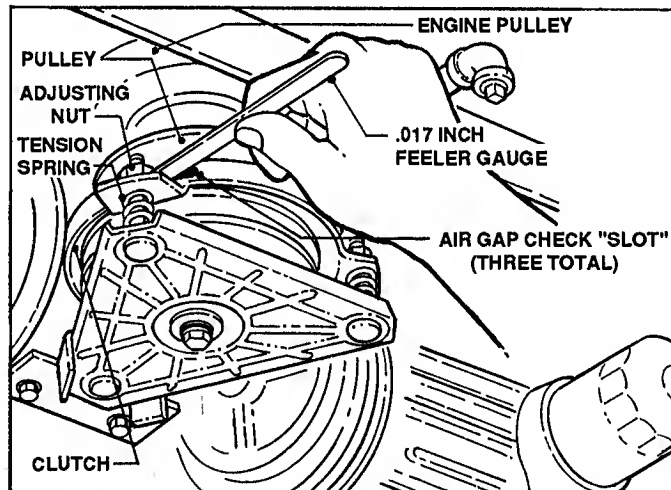

FIGURE 3.17 (USING FEELER GAUGE)
1. With the engine switch and clutch switch OFF, locate the three air gap check "slots" as shown. See Figure 3.17.